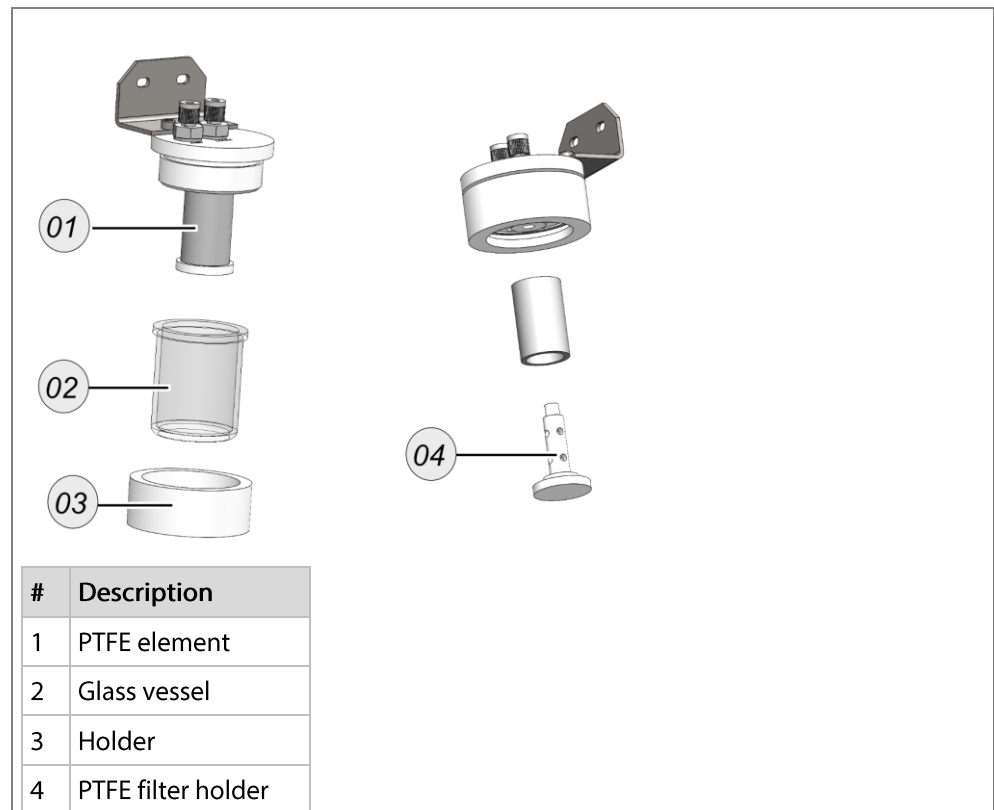

Fig. 1
- Unscrew the retaining ring of the dust filter by hand (Fig1. (3)).
- Remove the glass vessel (Fig.1 (2)).
- Unscrew the PTFE filter holder (Fig.1 (4)).
- Replace the used PTFE element with a new one (Fig.1 (1)).